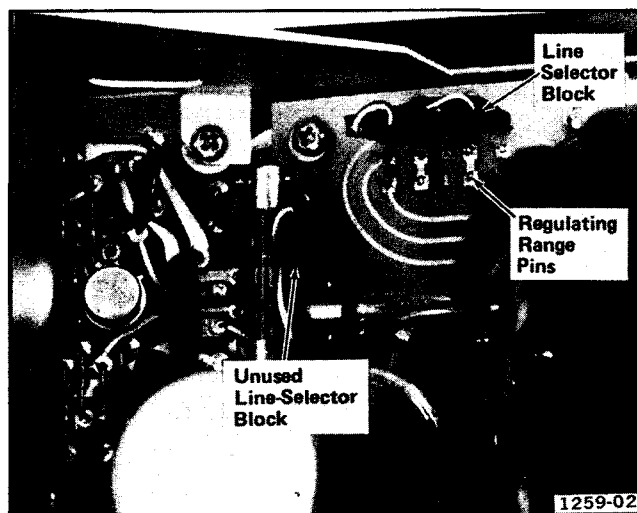

Fig. 5-1. Locations of the Line-Selector block on the Power Supply Rectifier board.
3. To convert from 120 volts to 220 volts (nominal) line voltage, or vice versa, remove the Line-Selector block from the square-pin connectors (see Fig. 5-1) and replace it with the unused block.